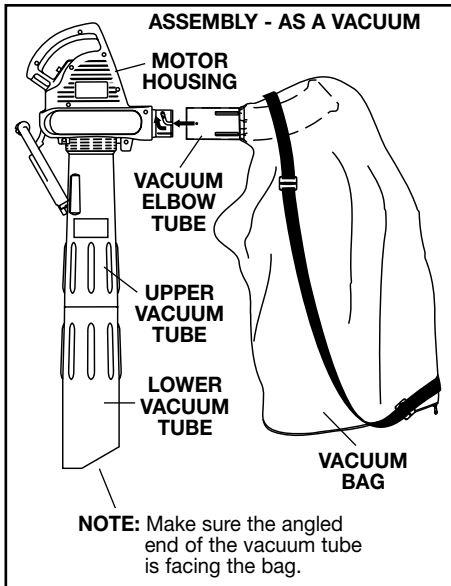

Fig. 12
9. Align the vacuum bag/elbow tube assembly with the grooves on the motor housing (Figs. 12 and 13).
10. Install the vacuum bag/elbow tube assembly onto the motor housing. Turn the assembly clockwise until it locks (Fig. 12).